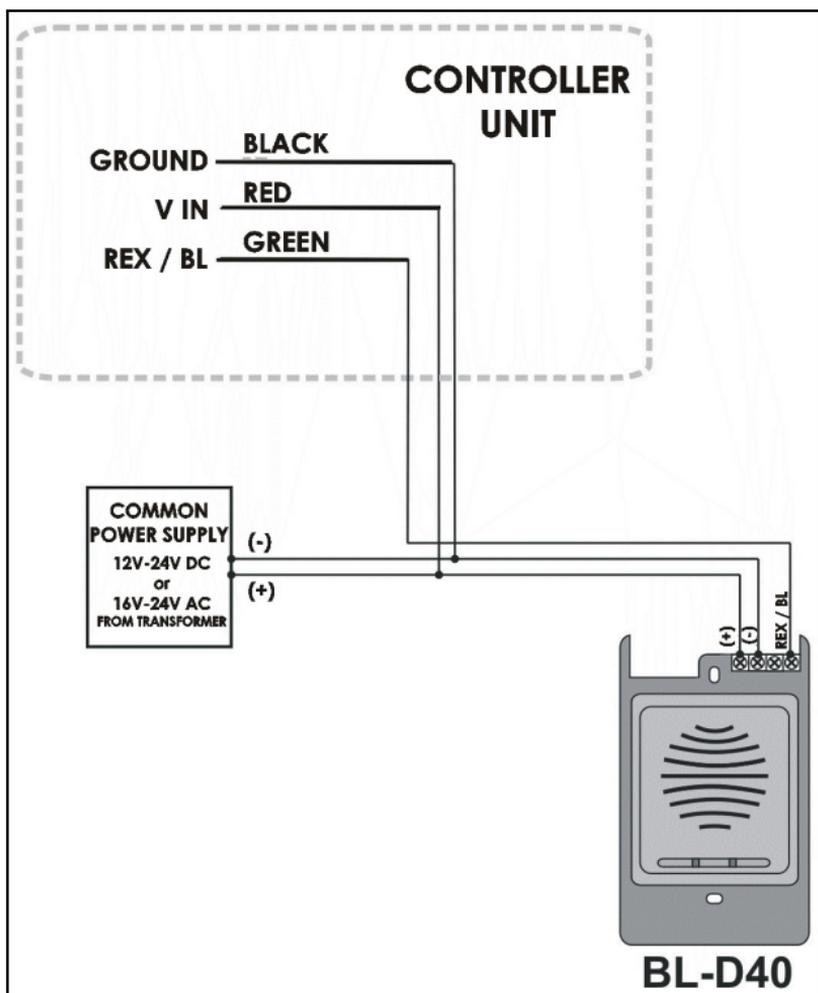

Figure 5: Wiring Diagram for the BL-D40 External Sounder
- Wiring for the BL-D40 External Sounder (Figure 5)